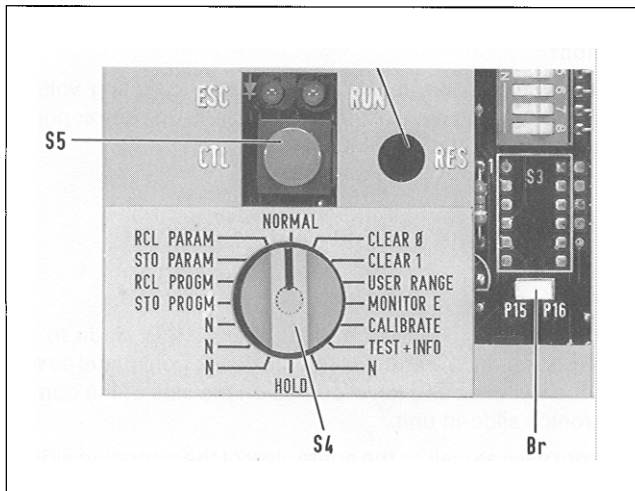

Fig. 2.2
1. Place jumper Br (see Fig. 2.2) horizontally, thus canceling the write protection.
3. Tip key S5, the code  $\&_0$  range start or  $\&_r$  range span (can be switched with key 3) appears on the digital display.
4. Move the decimal point to the position to be modified **simultaneously** with key 10 and ▼ or ▲.